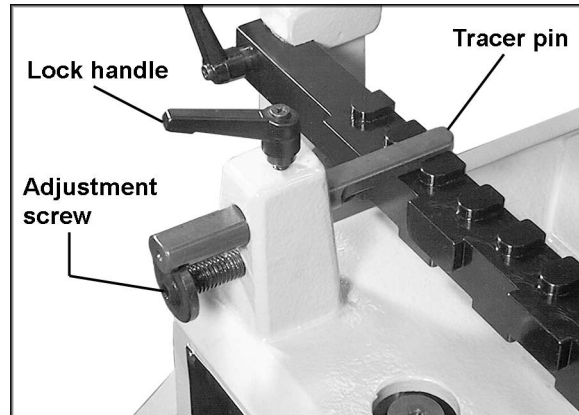

Figure 22
To adjust the thickness of the tenon (male) cuts, you will change the depth of the tracer pin (Figure 22).
2. Loosen the locking handle on top the tracer pin (Figure 22) by turning it counter clockwise.
3. Insert a 5.5mm hex wrench into the end of the adjustment screw (Figure 22) and turn the adjustment screw as needed. To decrease the thickness of the tenon cut, turn the adjustment screw counterclockwise. To increase the thickness of the tenon cut, turn the adjustment screw clockwise.